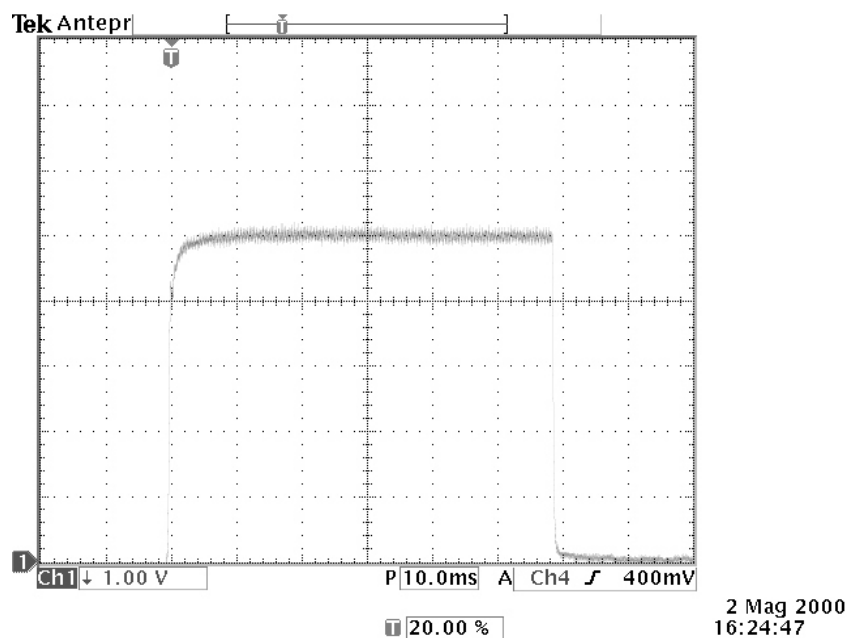

FIGURE 3 – ACQUISITION OF THE kV WAVE FORMS DURING RADIOGRAPHY [100 kV – 16 mAs – 30 kW]
- ➡ give the **X-RAY** command and check that the values read on the oscilloscope correspond with those indicated in TABLE 6; (FIGURE 3 shows an example of a 100 kV wave form)